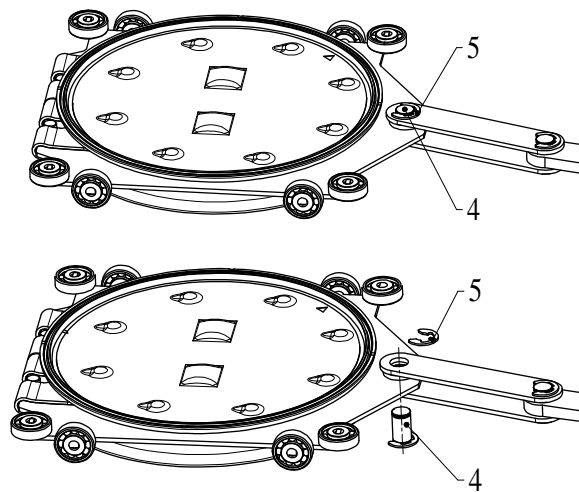

Figure 6-2
9. Remove locking ring (5) according to «Figure 6-2» on page 16.
10. Withdraw bolt (4) by pulling it downwards according to «Figure 6-2» on page 16.
16. Mount bolt (4) according to «Figure 6-2» on page 16.
17. Mount locking ring (5) according to «Figure 6-2» on page 16.